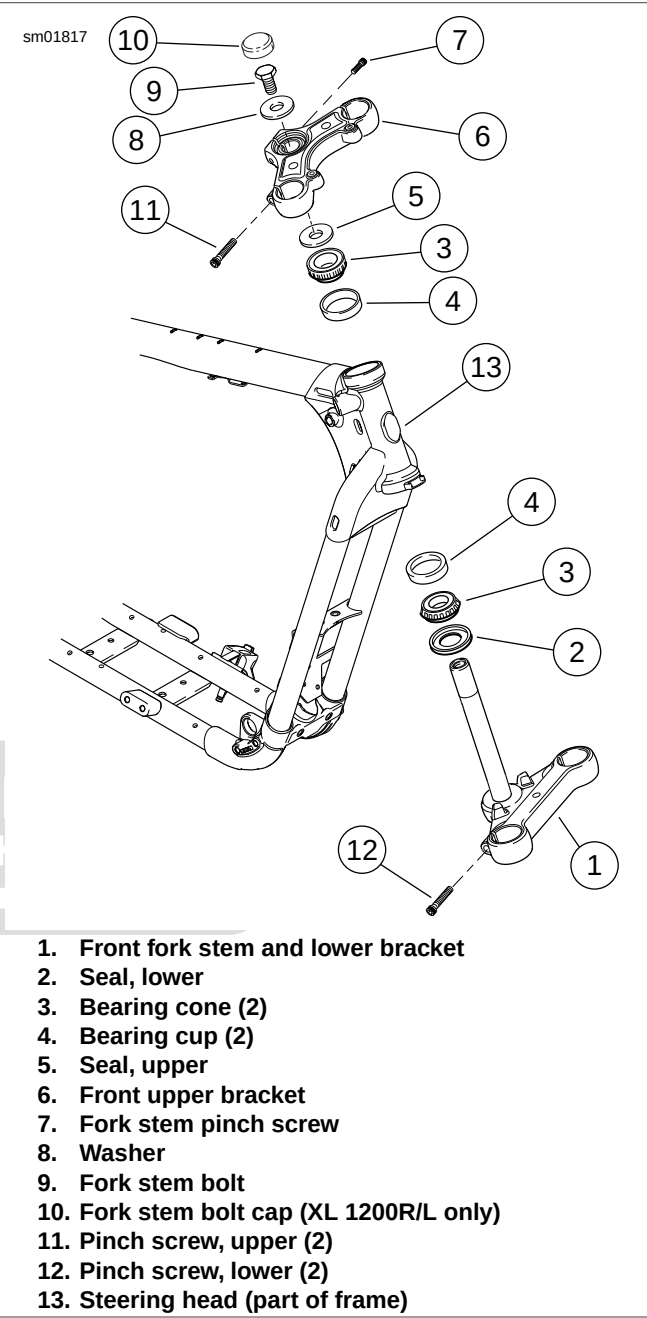

Figure 2-201. Fork Stem and Bracket Assembly: Typical
2. See Figure 2-201. Remove stem bolt cap (10) (XL 1200R only), fork stem bolt (9) and washer (8). Loosen fork stem pinch screw (7).
3. Lift handlebar assembly from steering head with fork upper bracket (6) attached. Carefully position assembly out of the way. Exercise caution to avoid damaging control cables, wiring harnesses, clutch cable or brake lines.
1. See Figure 2-201. Clean the seals (2, 5), bearing cones (3), fork stem and lower bracket (1) and steering head (13) with solvent.
2. Inspect fork stem and lower bracket (1). Replace if damaged.
1. See Figure 2-201. If bearing cups (4) were removed, obtain **new** bearings and bearing cups. Install **new** bearing cups